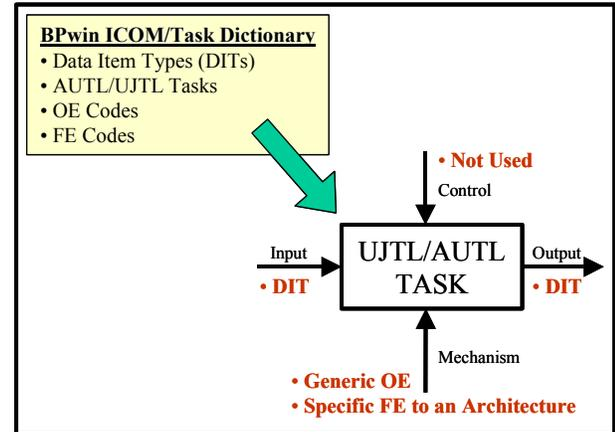

Figure 10: AARMS / BPwin Interface
Activity Modeling in the AARMS environment just got easier. AARMS is currently designed to work with the All Fusion (nee BPwin) IDEF0 Modeling Tool. The models project dictionary is populated with comma separated value (csv) files created by the AARMS OV-5 module containing the standard AARMS listings of Data Item Types (DITs), Tasks/Functions (AUTL/UJTL), generic Operational Element (OE) codes used to represent nodes, and the option of using Functional Elements (FE) for nodes specific to an architecture project. These values are then applied to the Input, Control, Output, and Mechanisms (ICOM) arrows to define the actions associated with a given task or function (Figure 10). AARMS also has the ability to accept User Defined Tasks that are not AUTL/UJTL based, but must be associated with an AUTL/UJTL task. The AARMS Users Guide provides more information on this feature.